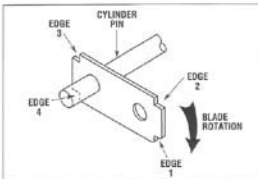

Figure 5-6: Individual cutting blade on cylinder pin.
all parts of the cylinder assembly so that it can be reassembled correctly. Mark each cylinder pin and other components before disassembly (see Figure 5-6).
Disassemble the cylinder assembly to rotate or replace the shredder cutting blades. See Figure 5-6 which illustrates the direction of blade rotation. Only one edge of the cutting blade cuts at any one time.
- Position the assembly so that one of the roll pins (Ref.# 16 in Figure 5-6) can be driven out using the punch and hammer. (Each of the three sleeve/spacer assemblies at the end of each cylinder pin contains a roll pin.)